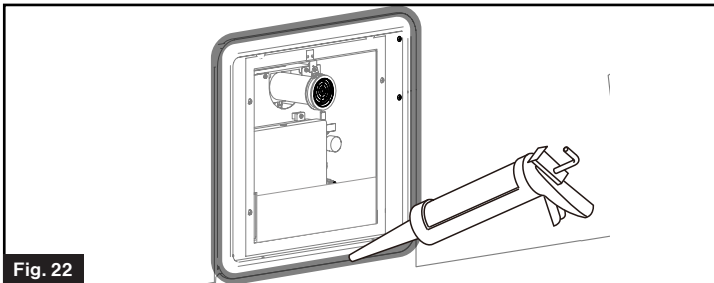

Fig. 22
5. Apply a liberal amount of sealant around the door frame to fill any gaps to the RV wall. (Fig. 22) Wipe any excess sealant.